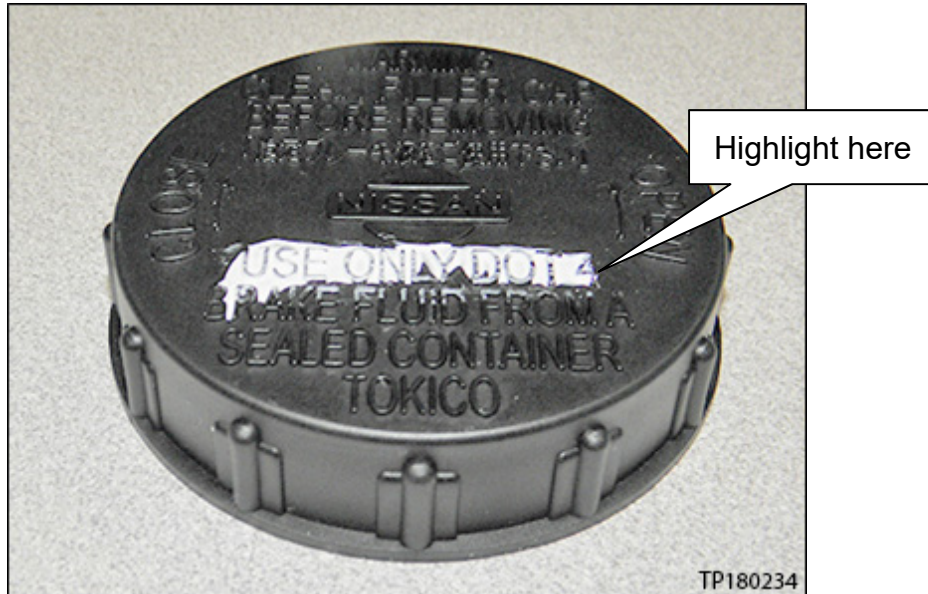

Figure 23
41. Mark the top of the new DOT 4 brake fluid reservoir cap with white touch-up paint, as shown in Figure 23.